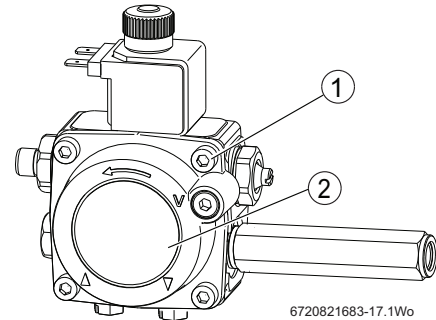

Fig. 85 Pump filter access
- ▶ Refer to figure 85 and remove the oil pump internal filter, clean in Kerosene and reassemble.